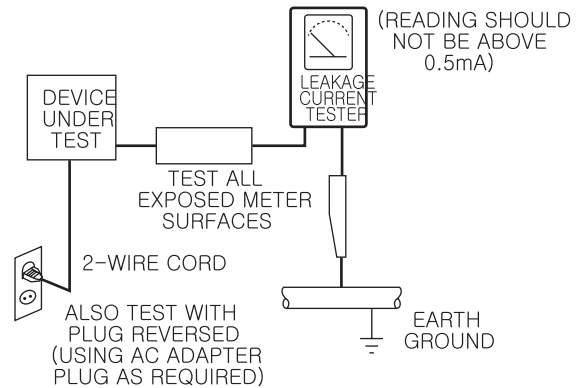

Fig. 1-1 AC Leakage Test
(2) Be sure that there are no cabinet openings through which adults or children might be able to insert their fingers and contact a hazardous voltage. Such openings include, but are not limited to, excessively wide cabinet ventilation slots, and an improperly fitted and/or incorrectly secured cabinet back cover.
(3) Leakage Current Hot Check-With the instrument completely reassembled, plug the AC line cord directly into a 230V(220V ~ 240V) AC outlet. (Do not use an isolation transformer during this test.) Use a leakage current tester or a metering system that complies with American National Standards Institute (ANSI) C101.1 Leakage Current for Appliances and Underwriters Laboratories (UL) 1270 (40.7). With the instrument's AC switch first in the ON position and then in the OFF position, measure from a known earth ground (metal water pipe, conduit, etc.) to all exposed metal parts of the instrument (antennas, handle brackets, metal cabinets, screwheads, metallic overlays, control shafts, etc.), especially any exposed metal parts that offer an electrical return path to the chassis. Any current measured must not exceed 0.5mA. Reverse the instrument power cord plug in the outlet and repeat the test. See Fig. 1-1.